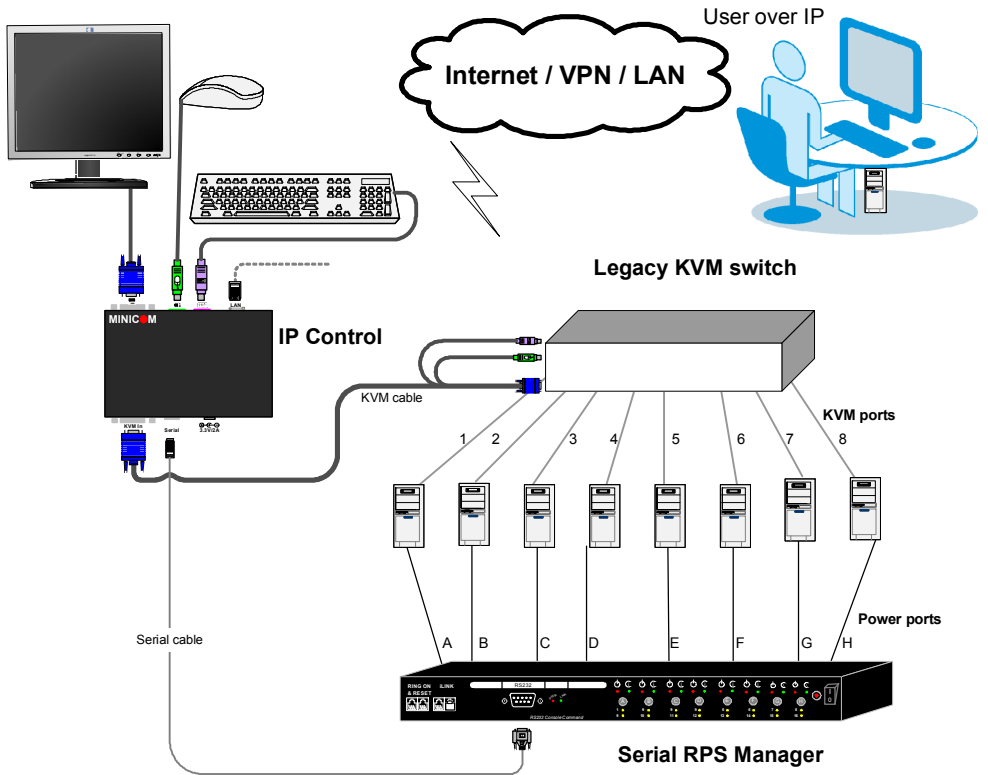

Figure 15 SRPS and IP Control connections
6. Connect the Serial cable (RS232-RJ45 connectors - this cable is supplied with the IP Control) to the Serial port of the SRPS and the IP Control– see Figure 15.
1. Connect the Power cord of each server to the Output ports of SRPS units according to their logical number. In Figure 15 the server connected to KVM port 1 must be connected to SRPS Output port A. The server connected to KVM port 2 must be connected to SRPS Output port B etc